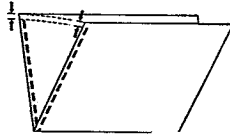

Figure A.5
5. Remove the punched sheet, fold it in half lengthwise, and determine if the space next to the first hole is equal to the space next to the last hole (see Figure A.5). If the spaces are not equal, slightly adjust the Edge Guide, punch another test sheet, and recheck the spacings. Repeat as needed until spaces are equal. If the edge of the sheet is being clipped, check to see if a pull pin should be disengaged.